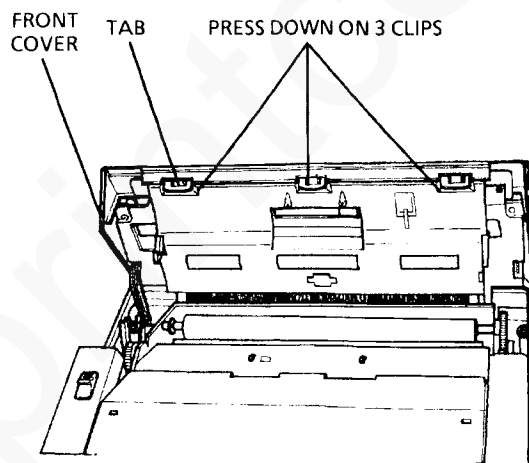

Figure 1. Control panel assembly
3. With the front cover open, locate the clips and tabs which are located at the edge of the cover. (Reference figure 1).